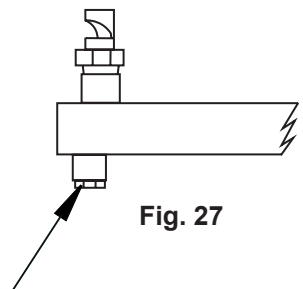

Fig. 27
9. Remove the drain plugs from the bottom of the spray bar near each nozzle (Fig. 27).